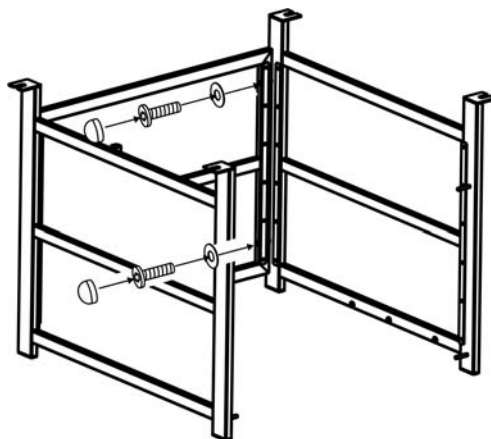

Figure 2
2. Attach the back panel to the side panels (1 and 2) by using four 1/4"x40 mm bolts and Ø6.5x1.0 mm washers as shown in Figure 2. Guide the bolts through the holes in back panel, into the pre-drilled holes in the side panels. **Hand tighten only.**